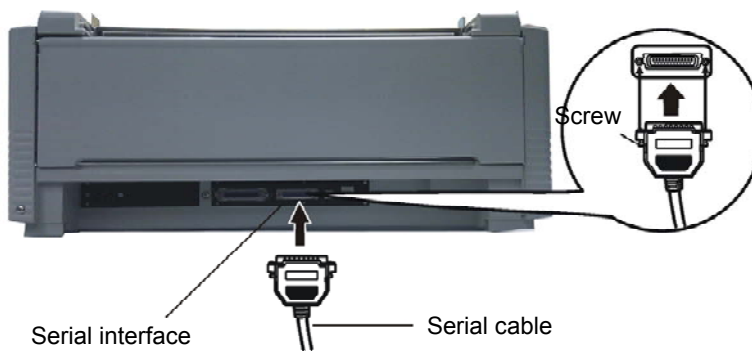

Figure 2-10 Connect to the serial interface
1. Turn off both the computer and the printer. Plug the serial cable connector securely into the printer's serial interface. Then tighten the screws on both sides of the connector. As shown in Figure 2-10.